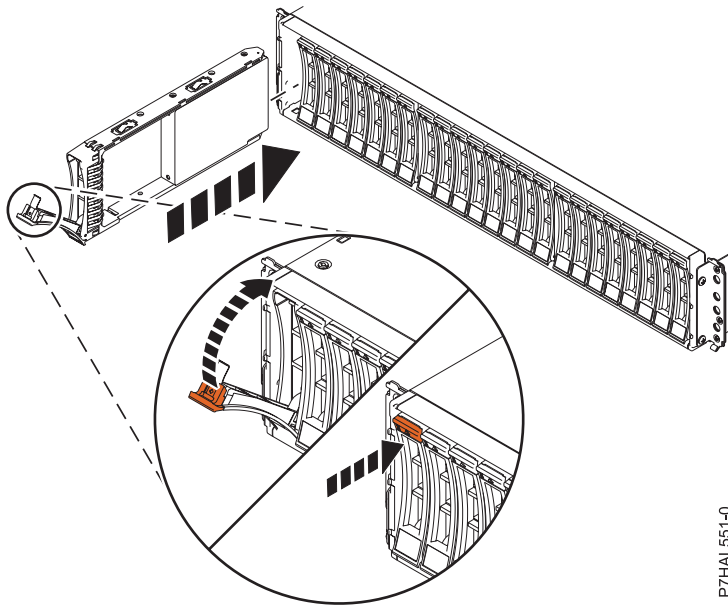

Figure 15. Installing the disk drive in the 5887 disk drive enclosure
1. With the handle in the unlocked position, see Figure 15, support the bottom of the drive as you align it with the guide rails in the expansion unit.